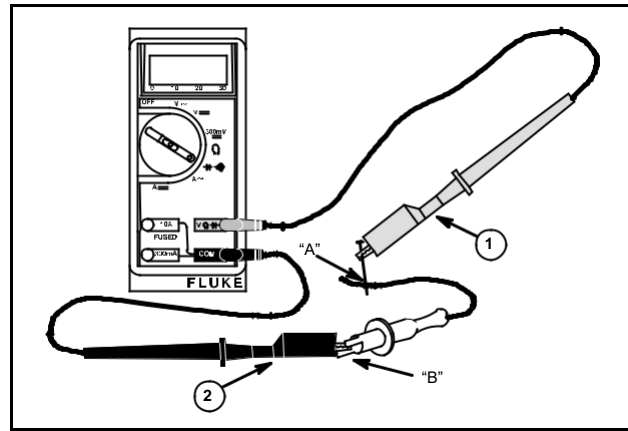
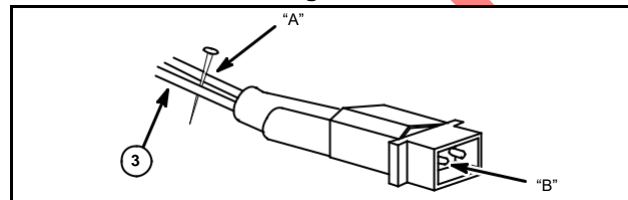

Fig. 25
Fig. 26
1. Insert RED test lead (1) into $V\Omega$ \rightarrow receptacle in meter.
2. Insert BLACK test lead (2) into COM receptacle in meter.
4. Attach RED test lead clip to point "A" and Black test lead clip to point "B," Fig. 25 (DC Only), Fig. 26 (Dual Circuit). (It may be necessary to pierce the red (3) wire with a pin as shown.)